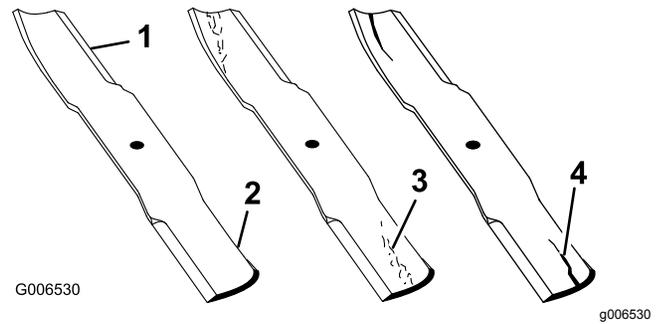

Figure 112
1. Inspect the cutting edges (Figure 112).
4. If you notice any cracks, wear, or a slot forming in this area, immediately install a new blade (Figure 112).